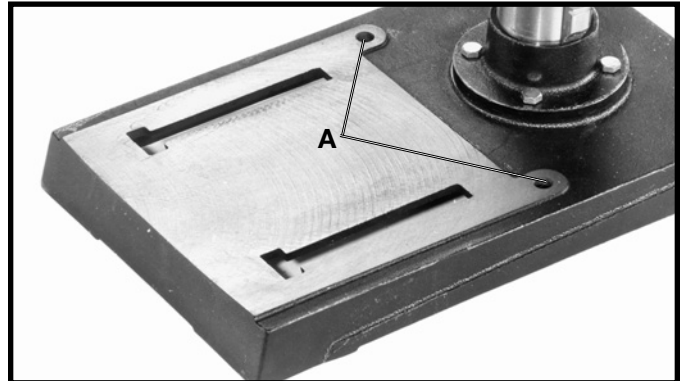
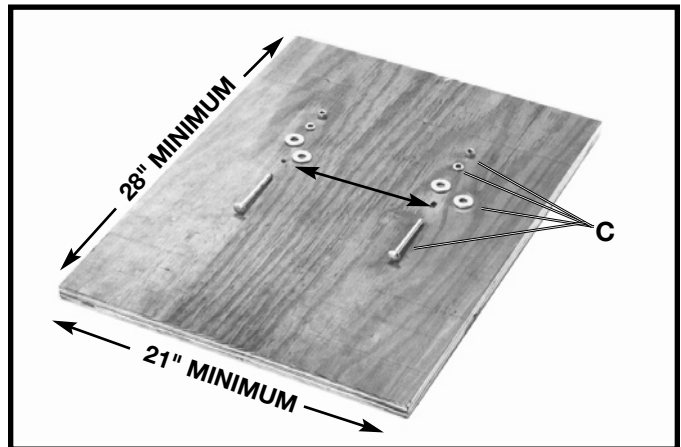
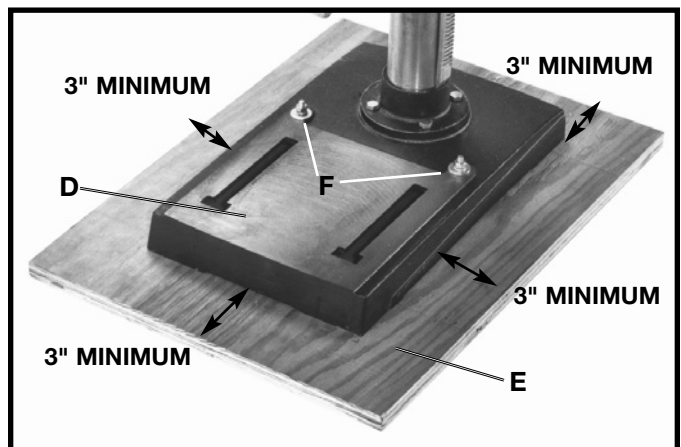

Fig. 3
Fig. 4
Fig. 5
1. If your drill press is to be used in a permanent location, the drill press base must be secured to the supporting surface with fasteners through the two mounting holes, (A) Fig. 3, in the drill press base.
2. Use a plywood board base, with the minimum dimensions as shown in Fig. 4 for mounting the drill press base to a supporting surface.
3. Place the drill press base (D) Fig. 5, centered on the supporting surface (E).
⚠ WARNING MAKE SURE THERE IS AT LEAST 3" ON ALL FOUR SIDES OF THE BASE AS SHOWN IN FIG. 5.
4. Drill two 3/8" diameter holes through the holes (A) Fig. 3 in the drill press base, and in the supporting surface (E) Fig. 5.
5. Fasten the drill press base to the mounting board using the carriage bolts, flat washers, lockwashers, and hex nuts (C) Fig. 4, furnished with your drill press. The holes for the carriage bolt heads and flat washers under the board must be countersunk so that the bolt heads are flush or below the bottom surface of the board. Make sure to use a flat washer, lock washer and hex nut above the drill press base as shown at (F) Fig. 5.